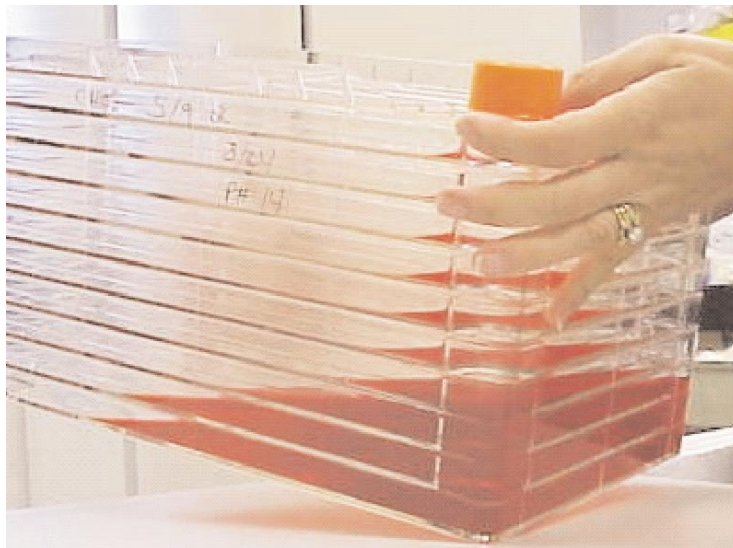

Figure 1. Top: tilting of CellSTACK® chamber to pool media in lowest layers. Bottom: Media levels after pooling into bottom layers.
1. Remove CellSTACK chamber from incubator and pool medium into lowest layers. This is done by tilting the CellSTACK chamber on a port corner to allow as much medium as possible to pool into the lowest layers (Figure 1).